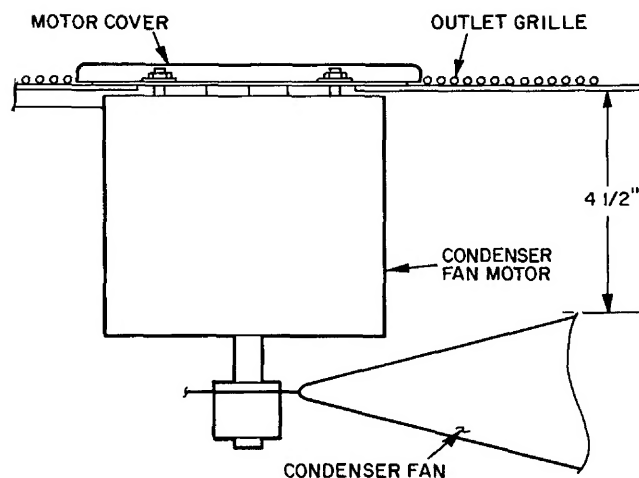

Fig. 10 — Condenser-Fan Adjustment
Condenser-Fan Adjustment (Fig. 10)
4. Adjust fan height as shown in Fig. 10.